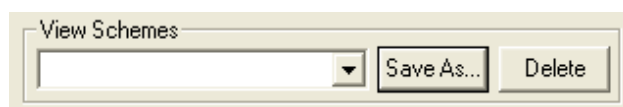

Figure 21: View Scheme Section
To manage (apply, save, delete) filter values in a **View Scheme**, the textbox and buttons on the bottom section of the **Criteria** panel are used (you may refer to Figure 21).
- 2 In the **Select View** window (shown above), type in the label of the new **View Scheme** and click **OK**. The new scheme appears in the dropdown text box shown in Figure 21, and can be selected in the future.